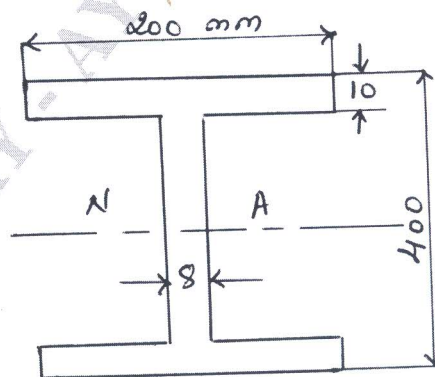

Fig.Q7(b)
b. The cross-section of a beam is shown in Fig.Q7(b). If permissible stress is 150 N/mm^2 , find its moment of resistance.